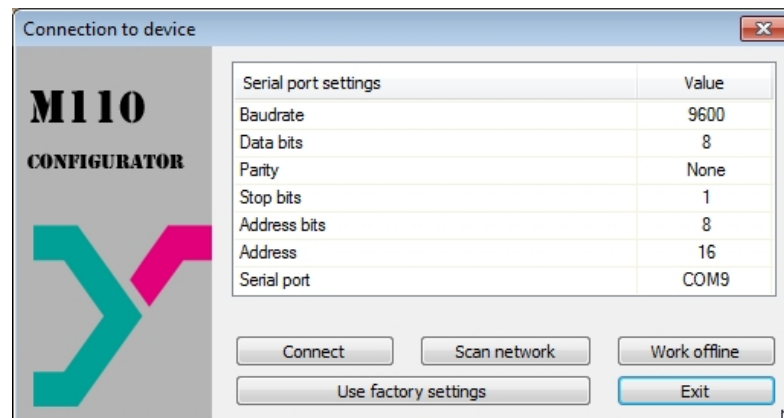

Fig. 7.1 Start window of configuration software
- in the 'Connection to device' window set the parameters to default (see Table 7.1) or click the 'Use factory settings' button (see Fig. 7.1)